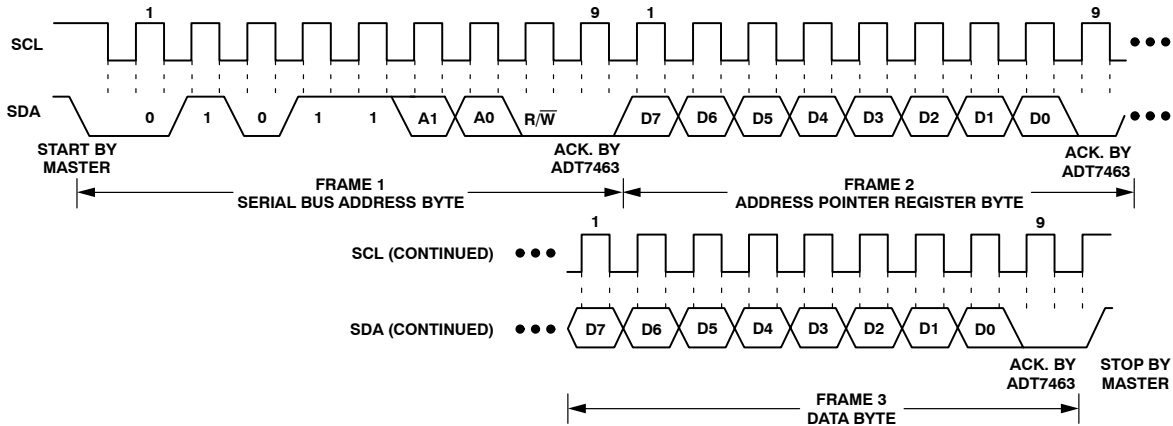

Figure 17. Writing a Register Address to the Address Pointer Register, then Writing Data to the Selected Register
This is illustrated in Figure 17. The device address is sent over the bus followed by R/\overline{W} being set to 0. This is followed by two data bytes. The first data byte is the address of the internal data register to be written to, which is stored in the address pointer register. The second data byte is the data to be written to the internal data register.
2. In Figures 17 to 19, the serial bus address is shown as the default value 01011 (A1)(A0), where A1 and A0 are set by the address select mode function previously defined.